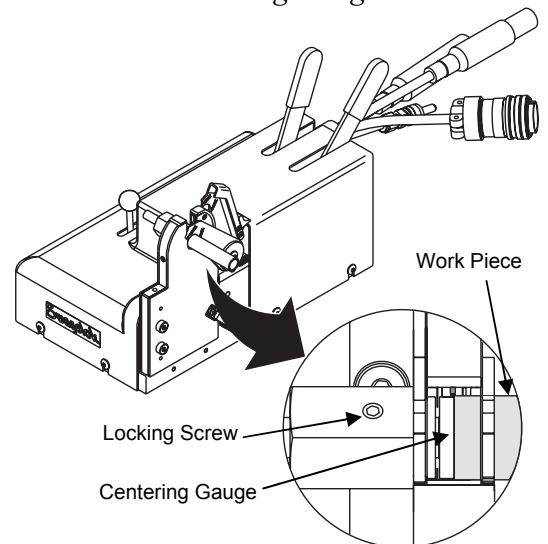

Figure 26 *Inserting the Work Piece*
6. Insert the work piece into the other side of the fixture and butt it squarely against the end of the centering gauge. See Figure 26.